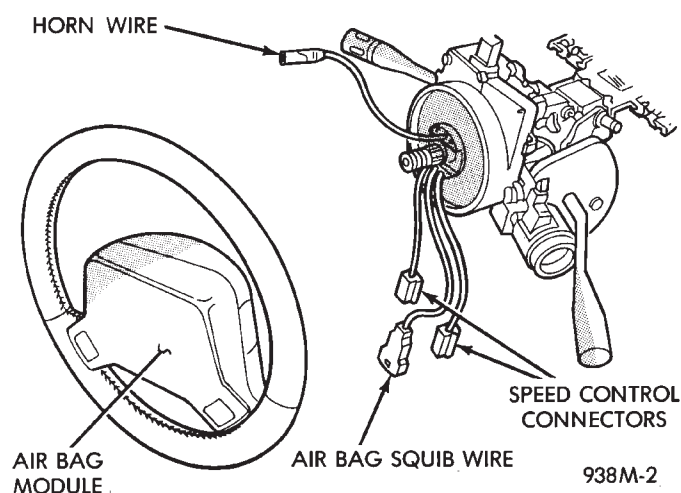

Fig. 5 Driver Side Air Bag Module
- (1) Disconnect and isolate the battery negative cable.
- (2) Remove speed control switches or covers from steering wheel back shroud and disconnect the wires.
- (3) Remove two bolts attaching air bag module from the sides of steering wheel (Fig. 5).
- (4) Lift module and disconnect air bag and horn wire connectors.
- (5) Remove driver air bag module.
- (6) When replacing a deployed driver air bag module, the clockspring must also be replaced. Refer to Clockspring Removal and Installation for proper procedure.